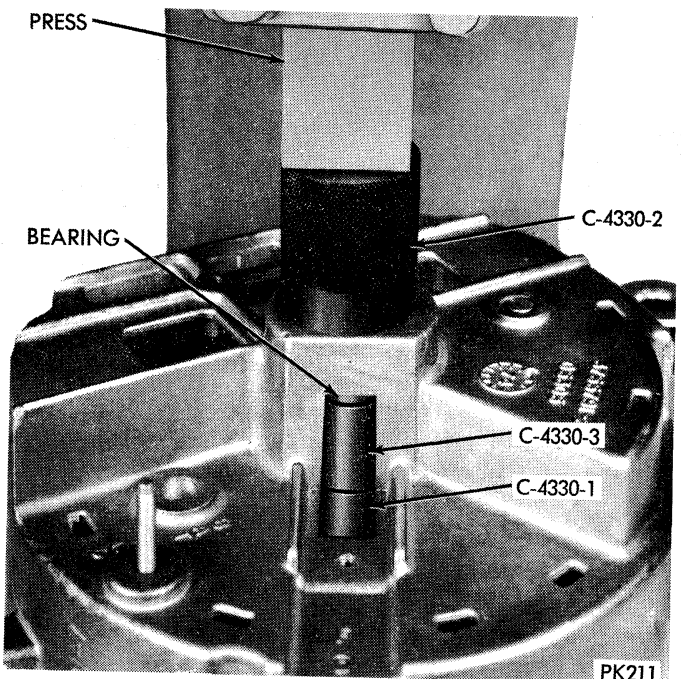

Fig. 56—Removing Rectifier End Shield Bearing
- (7) The needle roller bearing in rectifier end shield is a press fit. If necessary to remove bearing, refer to (Fig. 56) for correct positioning of tool C-4330.